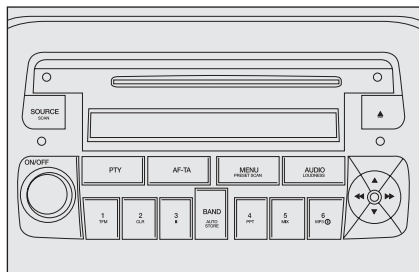

fig. 3
- with sound system upon request **fig. 3**;